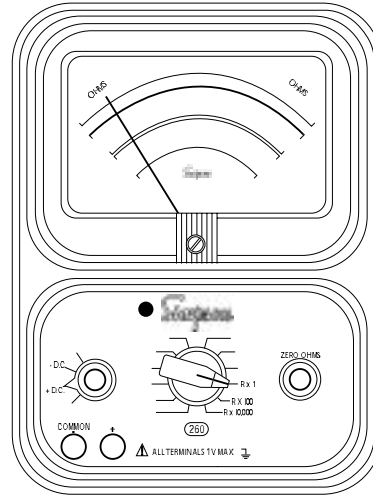

Figure 4-13. Jacks and Switch Positions for Measuring Resistance
- b. Set the range switch to one of the resistance range positions as follows (Figure 4-13):
- Refer to Paragraph 4.12, Figure 4-13 for measurements of circuit resistance, if any, that exists.